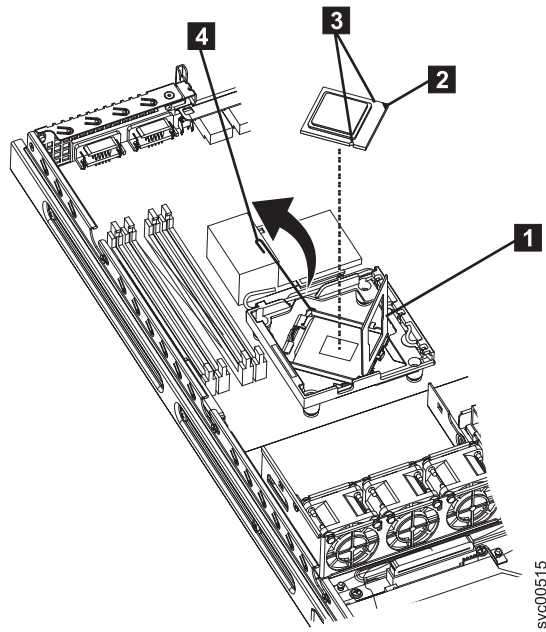

Figure 256. SAN Volume Controller 2145-8A4 microprocessor
1. Make sure that the microprocessor bracket frame **1** and release latch **4**, shown in Figure 256 on page 272, are both fully open.
2. Align the microprocessor with the socket as shown in Figure 256. (Note the alignment mark **2** and the position of the notches **3**.) Then, carefully place the microprocessor on the socket, close the microprocessor bracket frame **1**, and close the microprocessor release latch **4**.